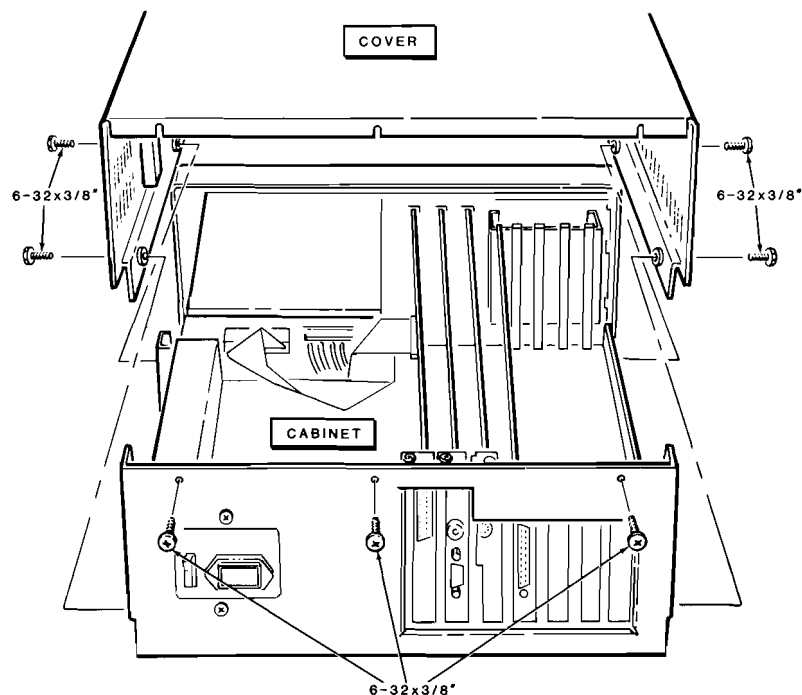

Figure 2.1. Z-150 Disassembly
- Refer to Figure 2.1. Remove and save the seven screws (labeled 6-32 × 3/8") that secure the top cover to the computer.